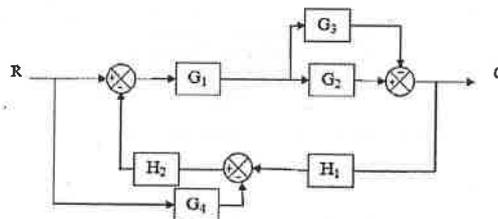

Fig.1
- 11.A). i) Develop the transfer function for the block diagram shown in fig.1 using Block diagram reduction technique. 5M